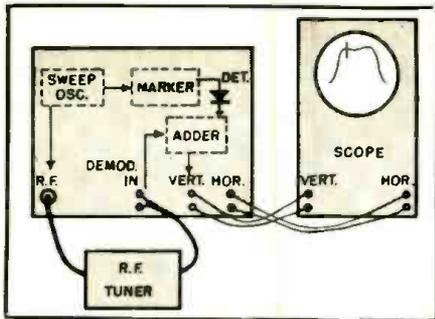

Fig. 4. Visual alignment setup using u.h.f. sweep generator which adds marker to detected sweep signal after it comes from tuner.
**RCA:** The RCA Model WR-40A u.h.f. sweep generator is probably the most complete u.h.f. instrument available. In addition to a continuously tuned sweep output from 470 to 890 mc., it also provides an accurate, tunable marker and a set of crystal controlled markers at 1 mc. and 10 mc. intervals. The amplitude of each of these three sets of markers is variable. Fig. 1 shows the complete unit. A very ingenious and slightly complex system is used to combine the sweep output with the markers. This is accomplished inside the generator, but after the sweep r.f. has passed through the unit under alignment. A block diagram of this scheme is shown in Fig. 4. The sweep output goes through the r.f. tuner and is then detected as in most visual alignment systems but, instead of going directly to the scope, it goes to the "adder" section of the generator. At the same time, a portion of the sweep signal is fed to the marker oscillator, the combination is detected and also fed to the "adder" section. In the "adder" circuit the two detected signals, essentially now 60 cps, are combined and connected to the vertical scope terminals. The advantage of this system is that it makes the sweep and marker amplitudes independent of each other. The same principle of